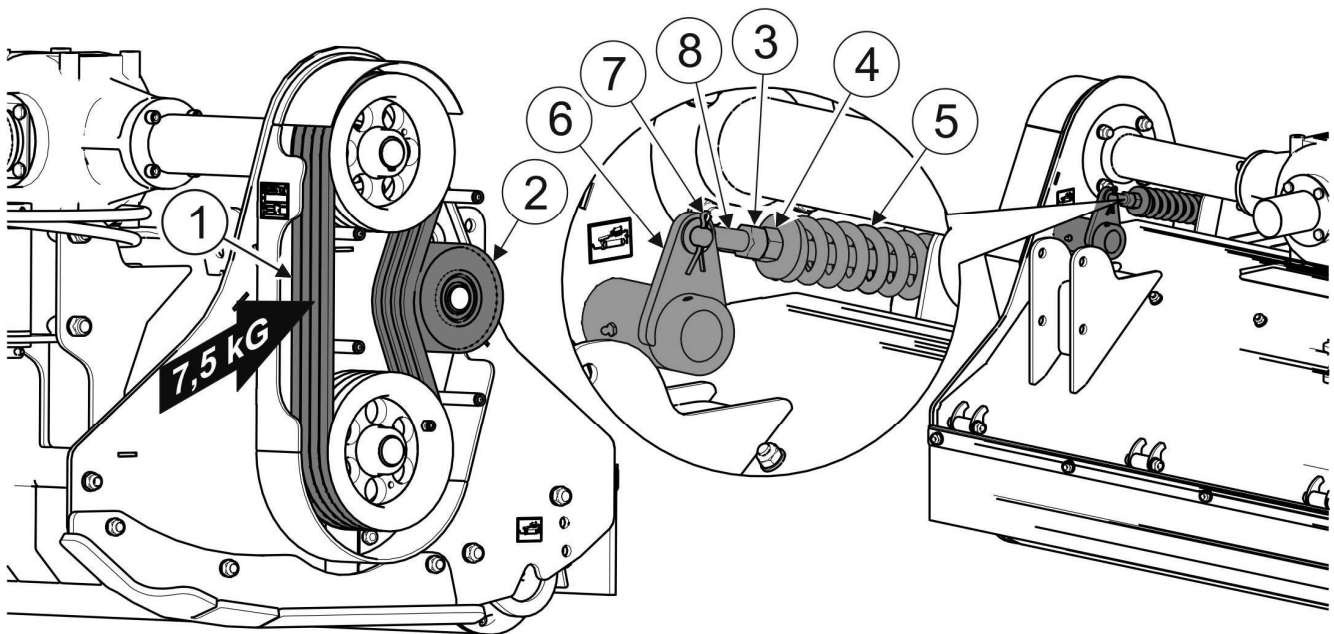

FIG. 5.4 Check and adjust tension of vee belts
Inspection of vee belts (FIGURE 5.4) involves checking of the belt tension. Deflection of vee belts measured between transmission's pulleys after application of 7,5 kG force should not exceed 11 mm (BK110 / BK200 / BK250) and 13 mm (BK140 / BK160 / BK180). Belt tension may be altered using nut (4) of spring tensioner. If one of the belts is damaged the whole belt set should be changed. To change the vee belts loosen the spring tensioner, remove cotter pin (7) and disconnect tensioner lever (6) from tensioning bolt (8).